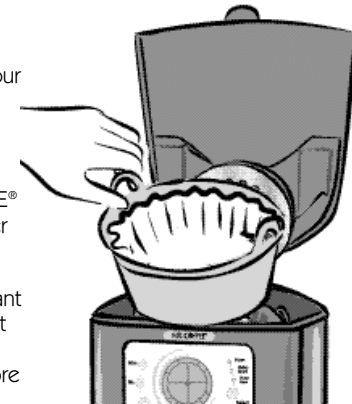

FIGURE 5
2. Place a MR. COFFEE® brand 10-12 cup paper basket-style filter or a MR. COFFEE® permanent filter into the removable filter basket (Figure 5).